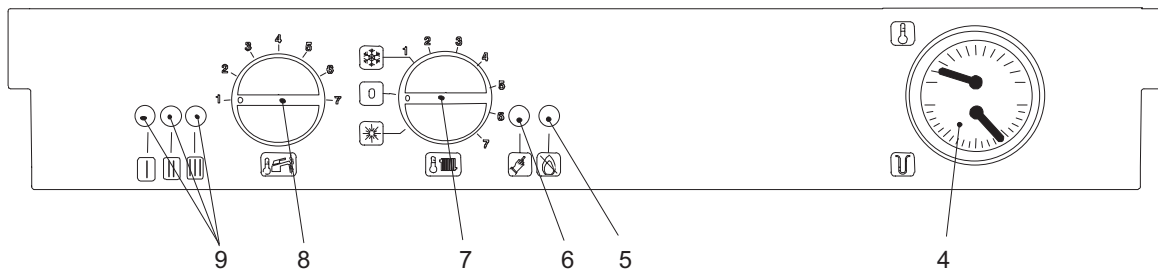
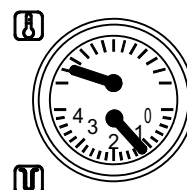

Figure 3.2
Figure 5.1
Three lights (9 in Fig. 3.2) give detailed indication regarding the operation of the boiler. The following table gives the relationship between each of the possible light combinations and their meaning.
- Ensure that the Central Heating circuit is regularly filled with water checking that the pressure indicated on the temperature and pressure gauge (4 on figure 3.2) is not lower than 1 bar (14.5 psi) as shown on figure 5.1.
- The temperature and pressure gauge (Fig. 5.1 on page 11) will allow you to check that the set temperature is obtained.
- You should check that the pressure on the temperature and pressure gauge (Fig. 5.1 on page 11) is not below the correct setting.
#### If the pressure on the temperature and pressure gauge (Figure 5.1 on page 11) has gone down: